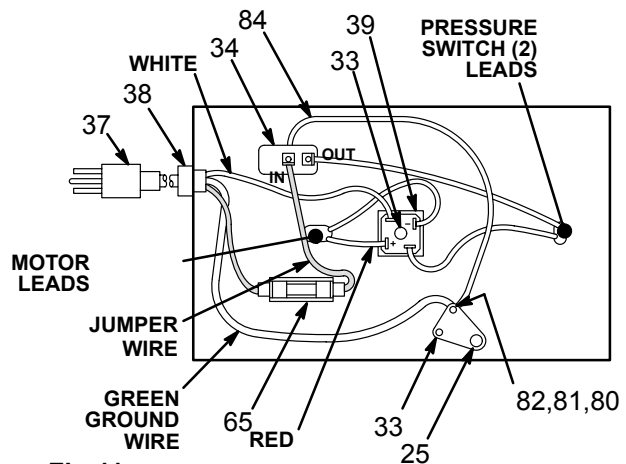

Fig 11
#### Rectifier (See Fig 11.)
1. Disconnect the two leads from the ON/OFF switch (34) terminals. See Fig 11.
4. Connect a pressure switch lead to the power-OUT terminal, and a jumper wire lead to the power-IN terminal. See Fig 11.
### Pressure Switch (See Fig 11, 12 & 13.)
1. Disconnect the pressure switch leads from the ON/OFF switch and from the rectifier. See Fig 11.
6. Guide the pressure switch leads through the base. Connect a lead to the power-OUT side of the ON/OFF switch (34) and connect the other end to an unmarked terminal on the rectifier (39). See Fig 11.